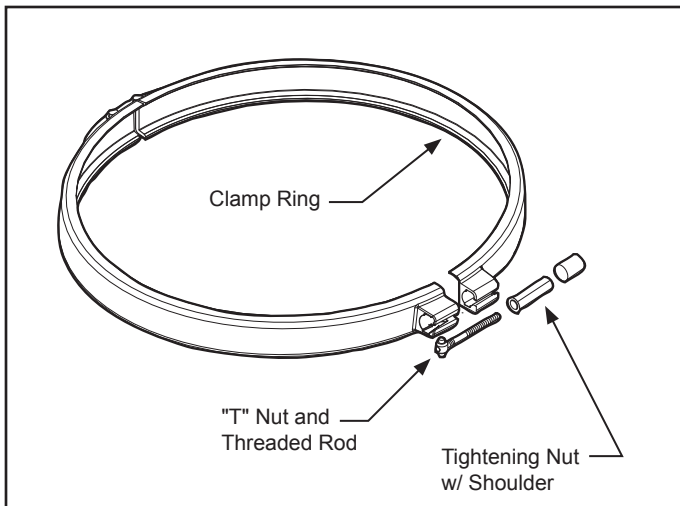

Figure 9. Filter Clamp Ring
3. Place the "T" nut and threaded rod assembly into the clamp. Be sure the "T" nut is seated in the clamp in the proper orientation. See Fig. 9.
4. Use a 9/16" socket on the tightening nut until the clamp ring halves touch each other, or are within 1/16", see Fig. 9 **but do not overtighten as the clamp can break**. If unable to tighten as indicated, do not operate the filter and **call a service technician immediately**.
3. Check that the tank clamp is correctly seated and tight. See Figs. 9 and 10.